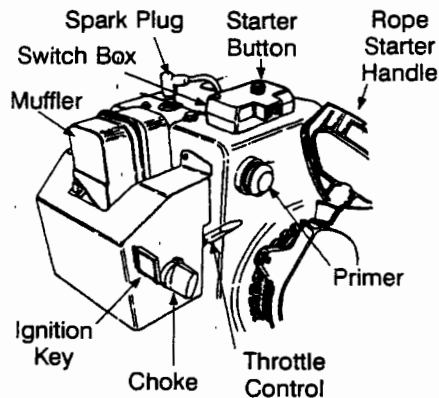

FIGURE 7 - Your engine may be slightly different from the engine shown .
- Move throttle control up to FAST position. Insert ignition key into slot. See Figure 7. Be certain it snaps into place. Do not turn key.
- Push primer button two or three times as instructed in the separate engine manual. See Figure 7.
- Push starter button to crank engine. See Figure 7.
- Push primer button two or three times as instructed in the separate engine manual. See Figure 7. If engine is warm, push primer button once only.
- Grasp starter handle (see Figure 7) and pull rope out slowly, until it pulls slightly harder. Let rope rewind slowly.